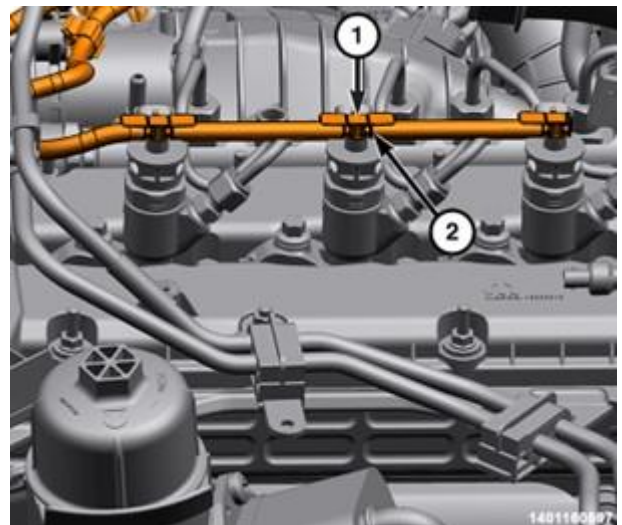

Figure 63 – Fuel Return Lines and Locking Tabs
- 112. Install the fuel injector return line (2) and be sure it is fully seated (Figure 63).
- 113. Push down on the lock tab (1) to lock in place (Figure 63).